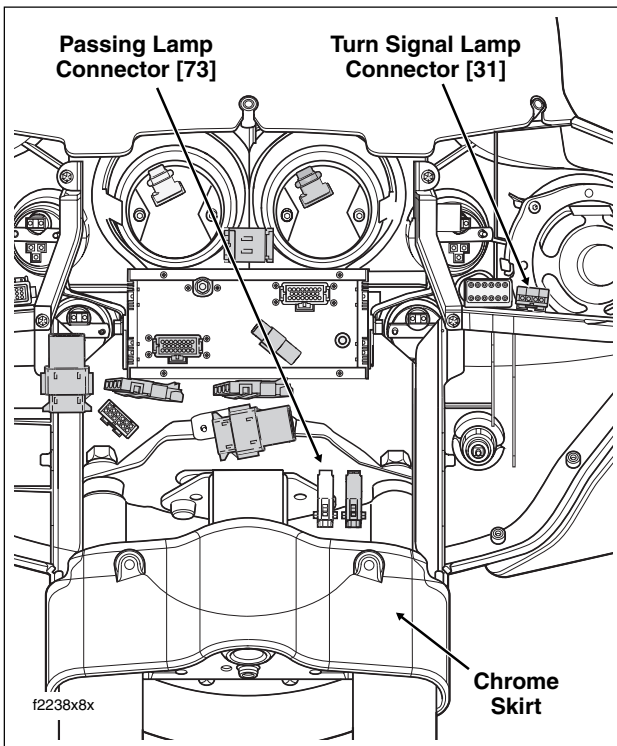

Figure 2-152. Inner Fairing (Front View)
2. Locate passing lamp (white 2-place Multilock) and front turn signal lamp (6-place Multilock) connectors. Depress button on socket terminal side and pull apart pin and socket halves of both connectors. See Figure 2-152.
5. Pull chrome skirt from inner fairing. See Figure 2-152.